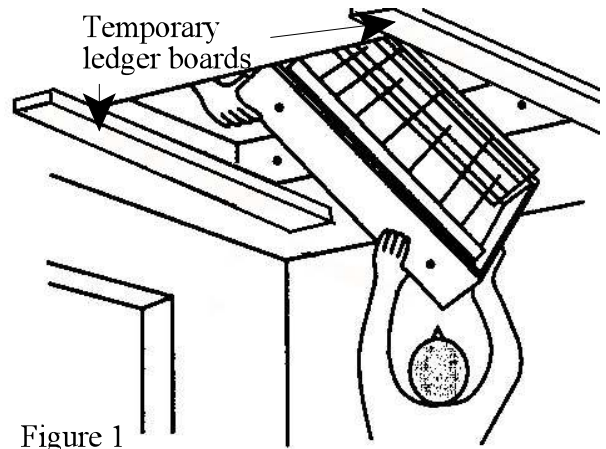

Figure 1
2. Install temporary support ledgers. Using 3" wood screws (not included), attach 1 x 6 temporary support ledger boards at both ends of the opening to provide temporary support for the stairs during installation. These boards must be a minimum of 6" longer than the width of the rough opening in the ceiling. To prevent splitting, predrill the holes for the wood screws. These boards are to provide a 7/8" ledger inside of the opening. If installed further in the opening, the ledger boards will interfere with the stair cover (Fig. 1).